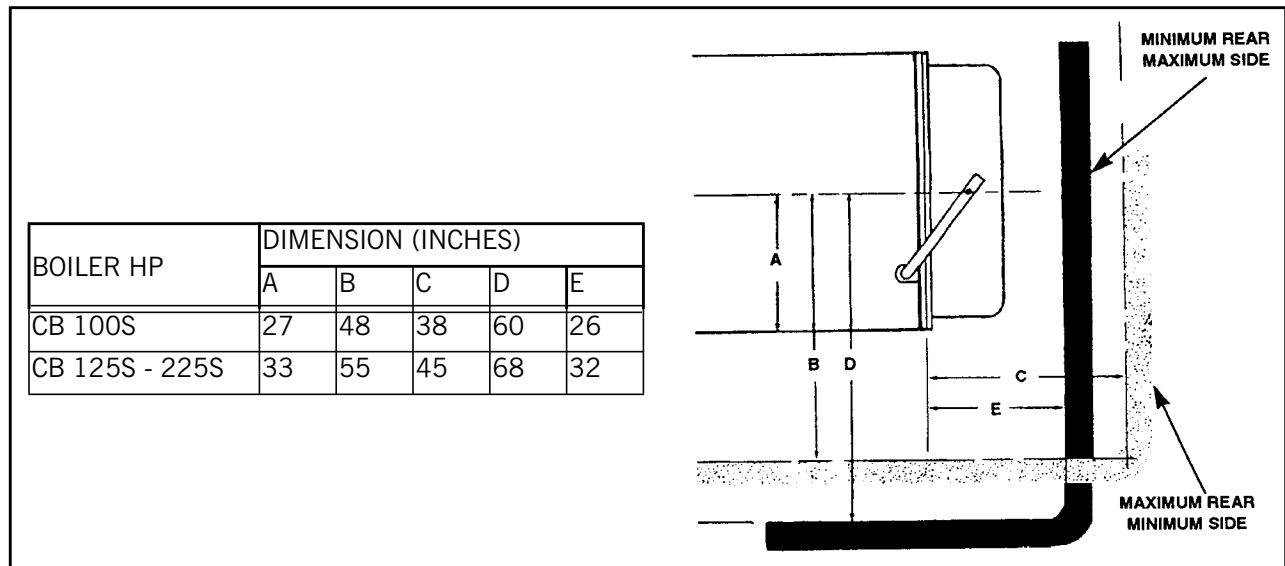

Figure 1. Space Required to Open Rear Head on Ohio Special Boilers Equipped with Davits
- Figure 1. Space required to open rear head on Model CB Ohio Special Boilers Equipped with Davits.